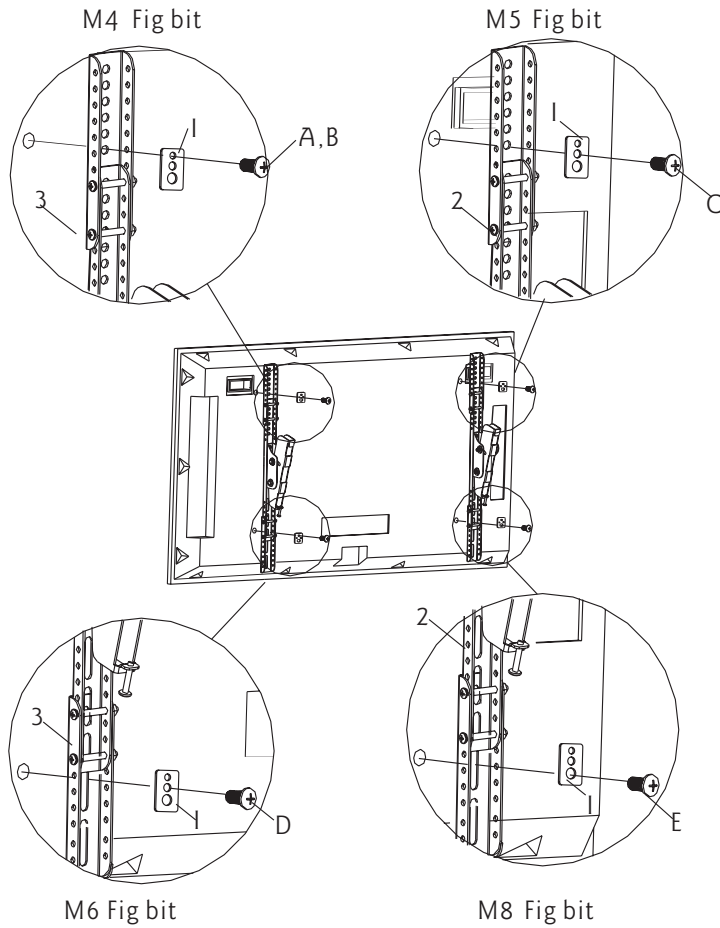

Fig 1c
1. Some displays have vertical backs. No spacer is required. Install the bracket directly to the back of display by using bolts and square washers provided. As shown in Fig. 1c.